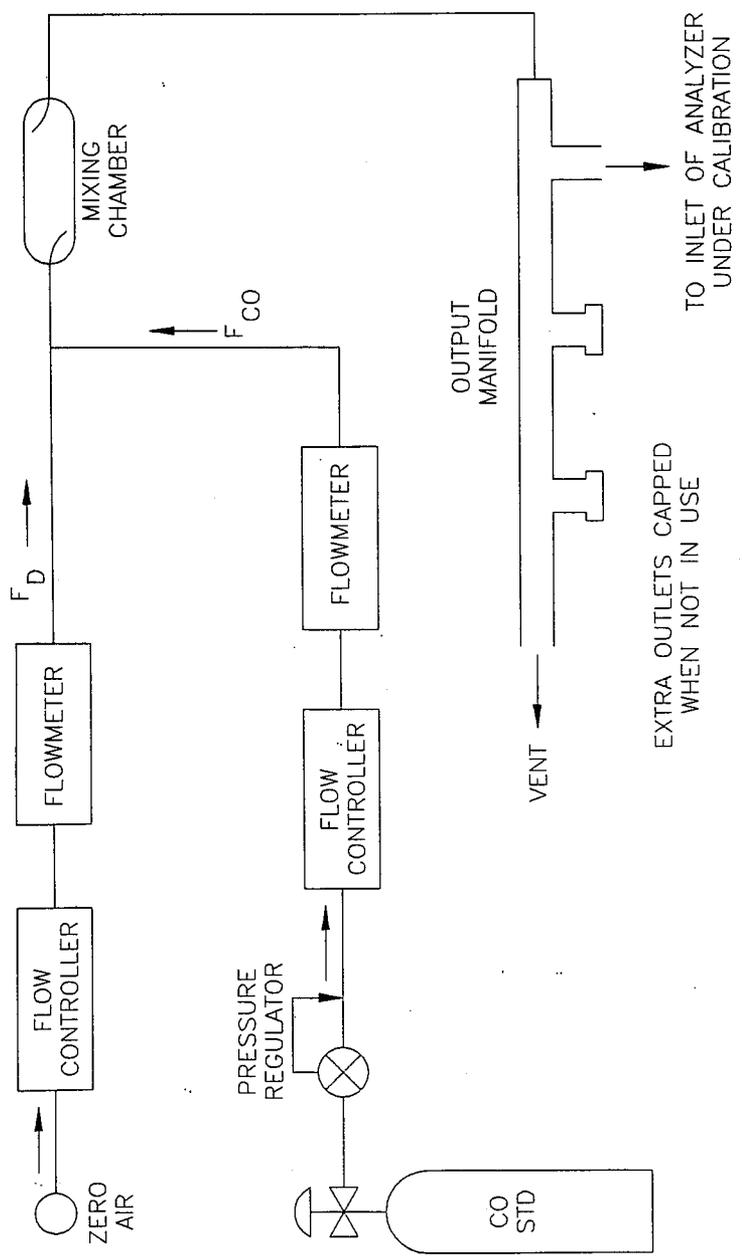

Figure IV-1
Connect the Model 48 to be calibrated, and the equipment of Section IV-A as shown in Figure IV-1. If an optional sample line filter is used, the calibration must be performed through this filter. Insure that the flowrate into the output manifold is greater than the total flow required by the analyzer and any other flow demand connected to the manifold.
b. Adjust the dilution system of Figure IV-1 so that zero air alone is present in the manifold. Since not all flow controllers have a positive shut off, it might be necessary to disconnect the CO input line and cap it. Allow the Model 48 to sample zero air until a stable reading is obtained and adjust the zero of the Model 48 using ZERO thumbwheel switches (Figure III-1). Adjust for an average reading of zero.
2. Periodically challenging the Model 48 with a CO level of approximately 80% of the URL. The 80% URL level may be obtained by dilution of a higher level of CO using a system similar to that of Figure IV-1, or by using a low level cylinder of CO containing CO in air at a concentration of approximately 80% of the URL. In either case the cylinder of CO should be checked against an SMR or CRM. It should also be true for a cylinder of low level CO. The Quality Assurance Handbook (1) should be referred to for the procedure of checking the cylinders. Record the Model 48's response in % of scale as A80. Compute the span error from the following equation: